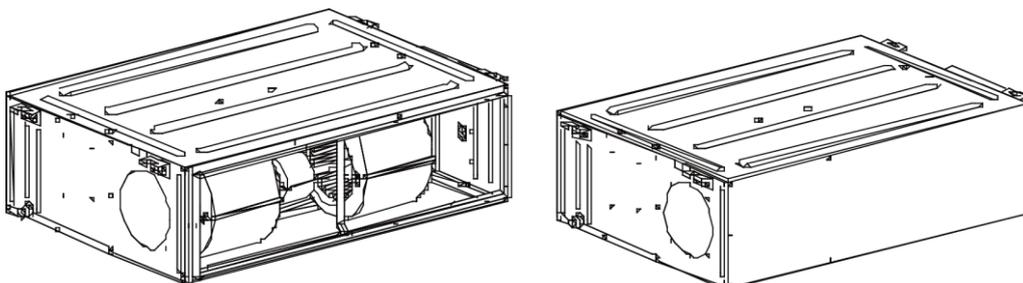

Fig 4.4.6
(1) The default installation location of the rectangular flange is at the back and the return air cover plate is at the bottom, as shown in Fig 4.4.6.